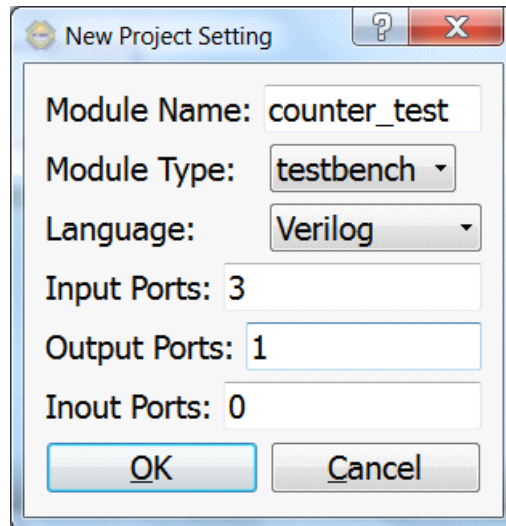

Fig7. Create a new testbench
- 1) Create a new design. Press on icon  in toolbar, in the pop up dialog, fill in blank with the following parameters in fig. 7.